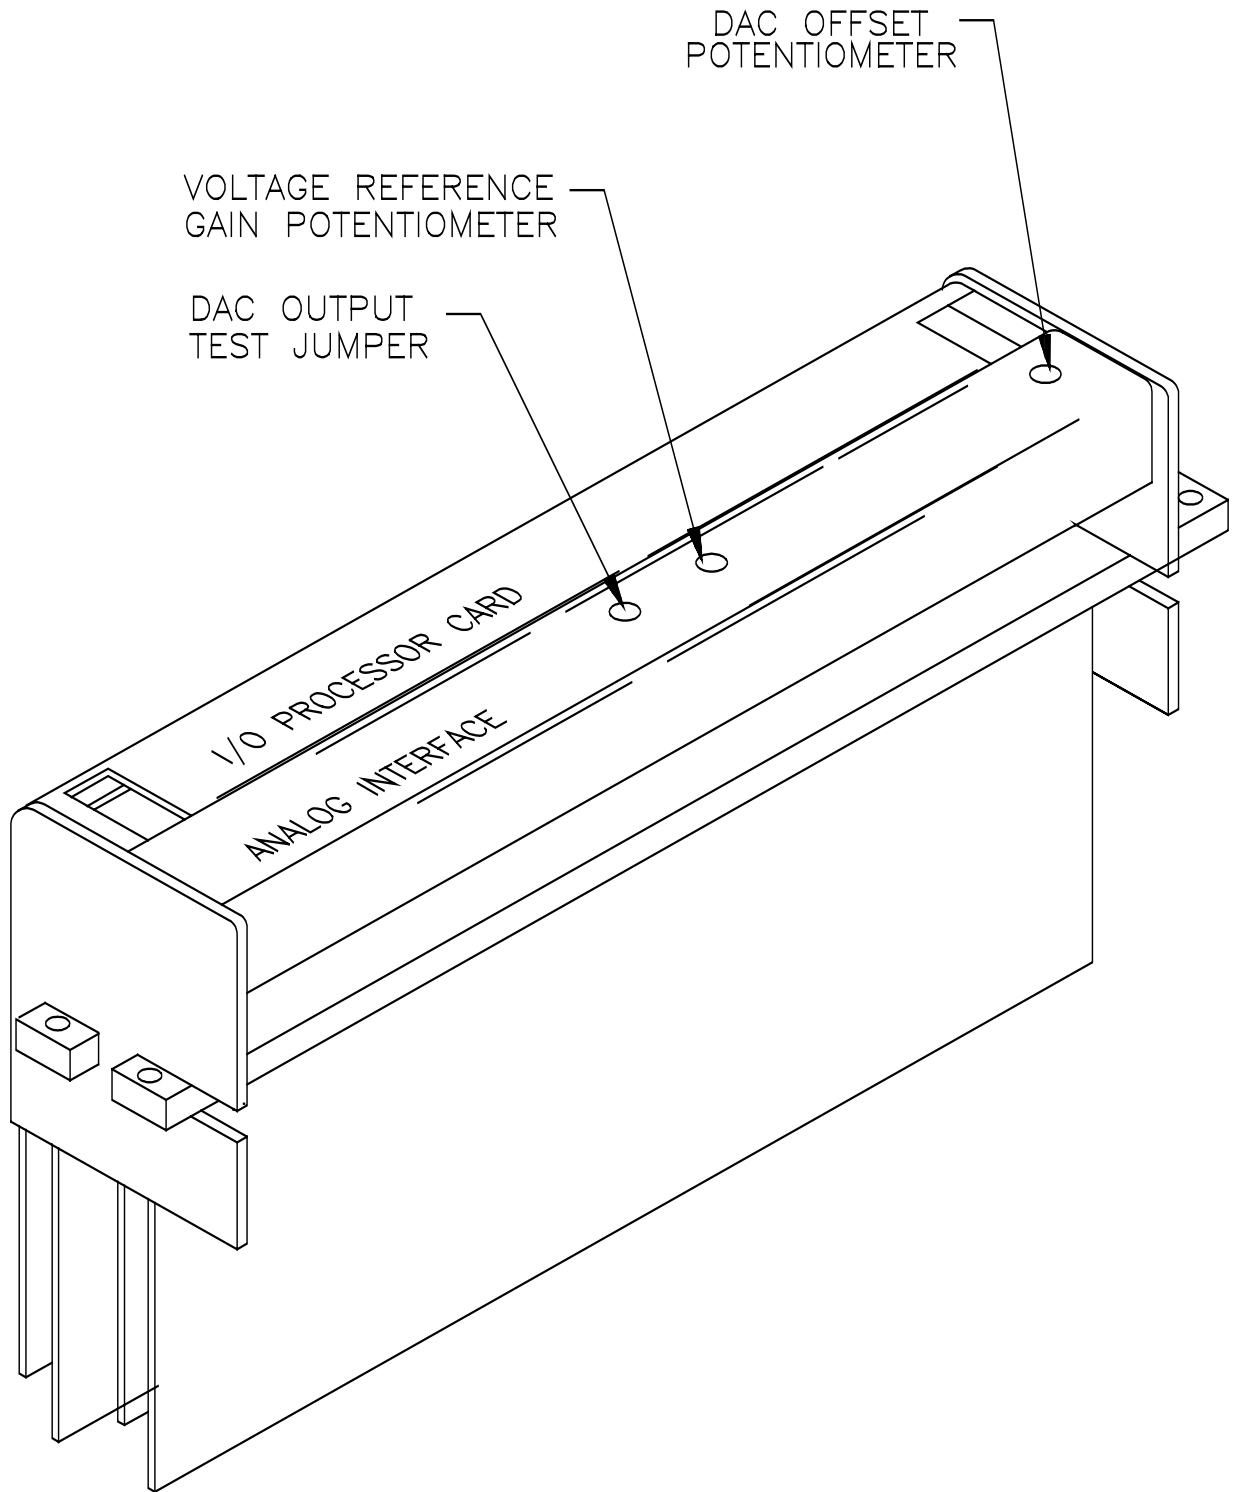

FIGURE D.2-1. Calibration Points for the Analog Interface Card
1. With a small, flat screw driver, pry off the three silver caps on the top of the Analog Interface Card in the I/O module (see Figure D.2-1).